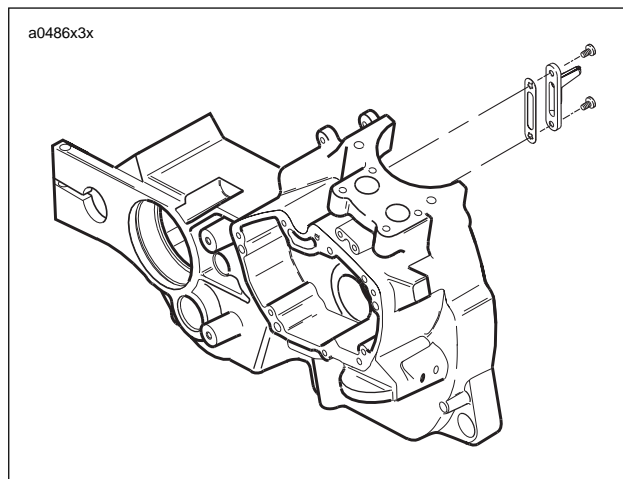

**Figure 3-124. Checking Connecting Rod Side Play**
1. See Figure 3-124. Check connecting rod side play with a thickness gauge as shown.